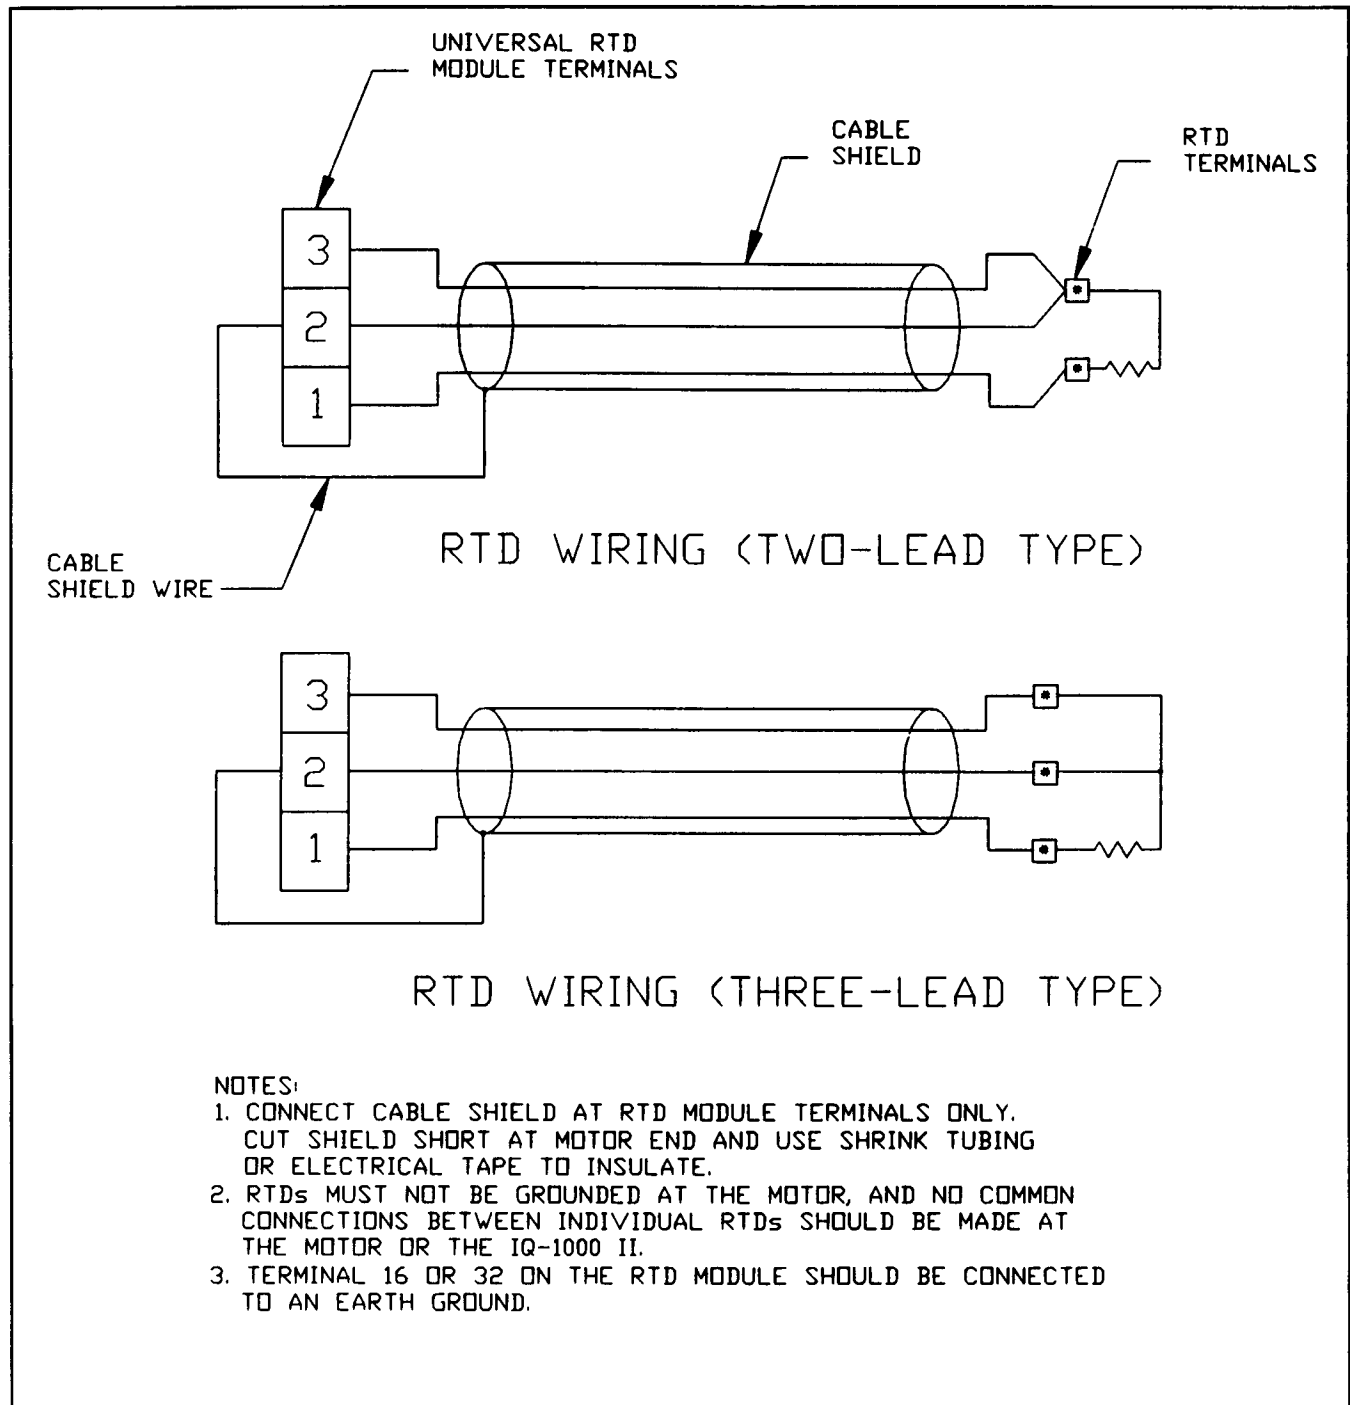

Figure 5.9 — RTD Wiring
Typical wiring for the RTD Option is shown in Figure 5.9. The exact RTD wiring for each application should be included in the Wiring Plan Drawings.
- When making connections between the RTD Module and an RTD that has only two leads, connect two of the interconnecting cable's leads to one of the RTD's leads (see Figure 5.9). Make this connection as close to the motor as possible. Tie the third interconnecting lead to the remaining RTD lead.
- When making connections between the RTD Module and a three lead RTD, connect the shield and drain wire to the RTD Module terminal as shown in Figure 5.9.